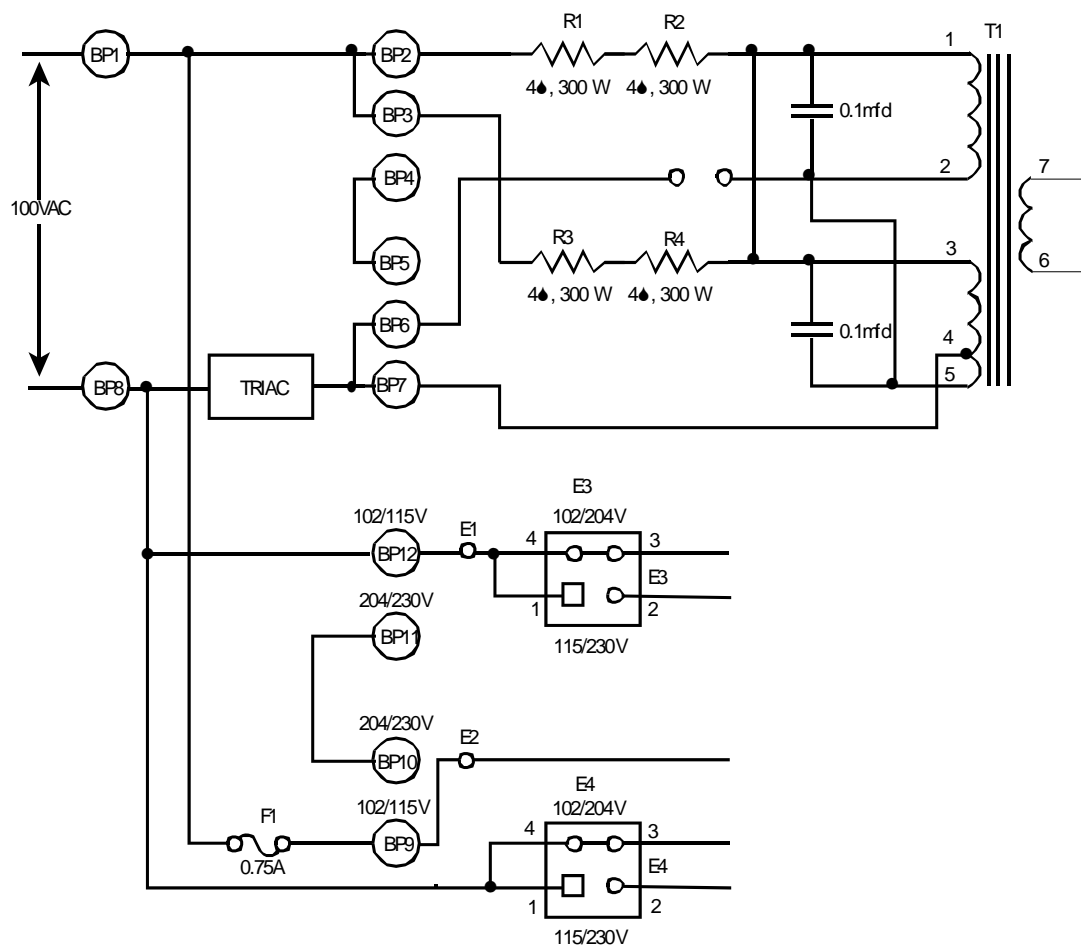

Figure 7-2. 100 VAC Line Voltage Configuration
- 3 Select the schematic of the primary circuit for the required voltage, figures 7-2 through 7-5. Check the connections and reconfigure the following components: